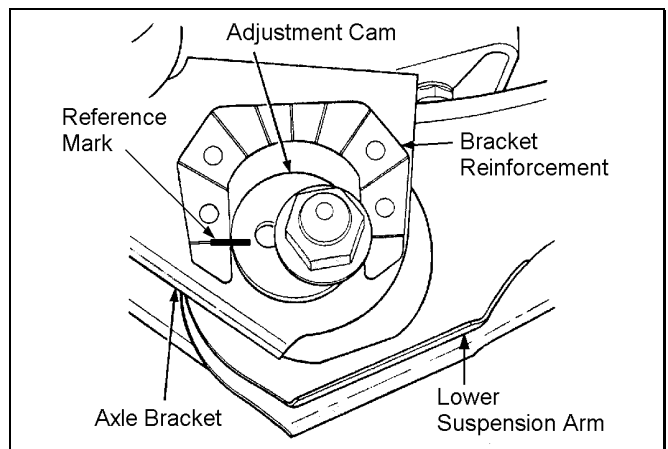

Figure 4
- 2) ☒ Paint or scribe alignment marks on the adjustment cams and axle brackets for installation reference. See Figure 4.